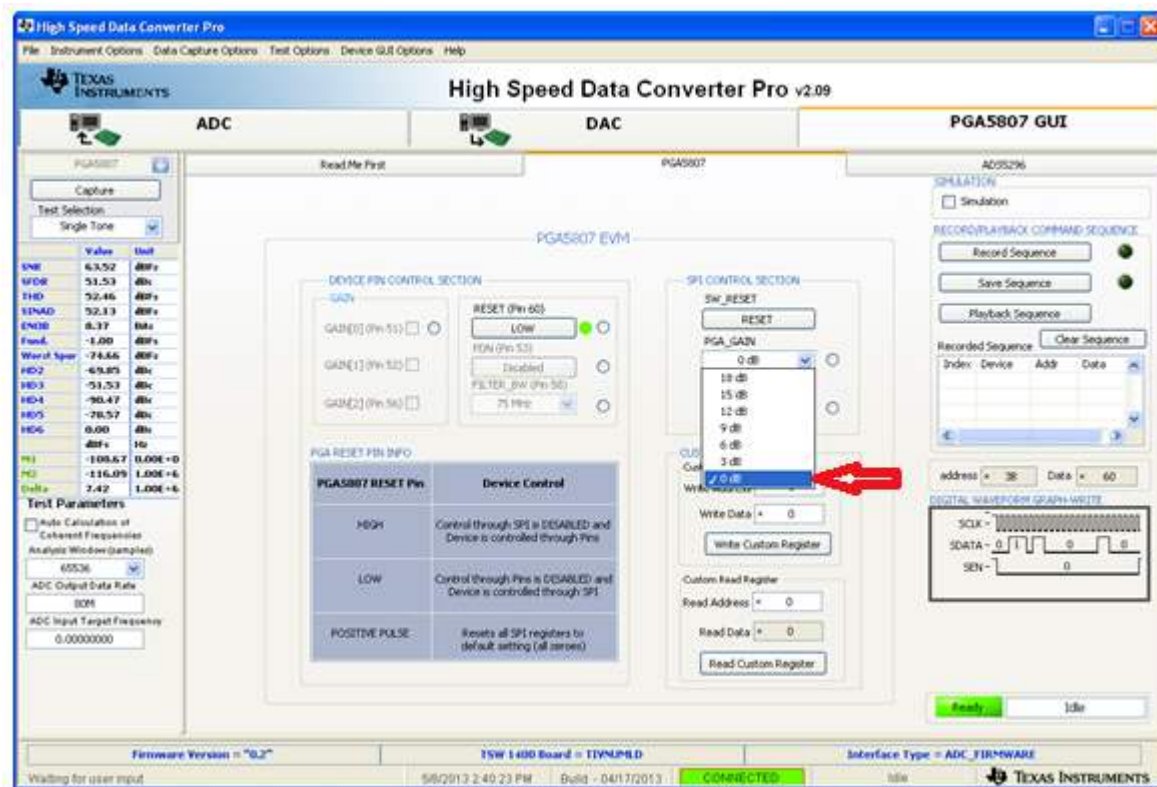

Figure 46. PGA5807 GUI Setup for PGA5807A + ADS5296A SNR, THD, Gain Test 2
- Return to the *PGA5807* tab and change the *PGA_GAIN* in the *SPI CONTROL SECTION* to *0 dB* as shown in Figure 46.